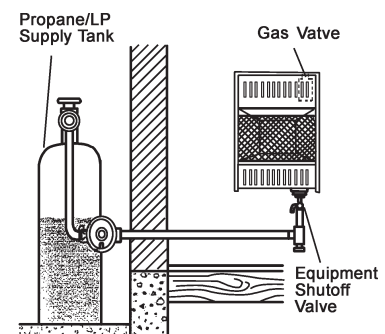

Figure 19 - Fuel Supply
3. Check all joints from gas meter to equipment shutoff valve (see Figure 19).
4. Wait five (5) minutes to clear out any gas. Then smell for gas, including near the floor. If you smell gas, STOP! Do not try to light any appliance. Do not touch electrical switch or use any phone in the building. Immediately contact gas supplier from a neighbor's phone. Follow gas supplier's instructions. If you can't reach the gas supplier, call the fire dept. If you don't smell gas, go to the next step.
5. Turn control knob counterclockwise ↺ to the PILOT position. Press in control knob for five (5) seconds (see Figure 19).